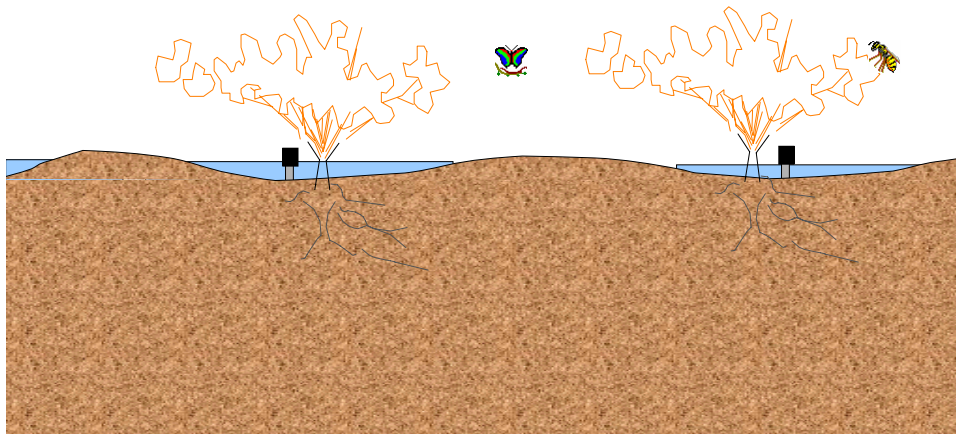

Figure 2. Contoured basins for bubbler system.
The Desert Irrigation Research and Training (DIRT) center in Tucson recommends the following for installation and maintenance of bubbler basins. (1) No more than one plant should be supplied by an individual bubbler (some bubblers at the DIRT center were installed in a location that enabled water to flow from one plant to another; however, the basins around plants were hard to maintain, and it was hard to maintain the correct distribution of water between plants). (2) If the basin diameter is too large, then two bubblers are required for complete coverage. (3) Increasing the size of basins during the first few years takes approximately 20 minutes per plant per year. (4) Basins with the plant planted below grade are stable; however, basins with ridges above the ground surface are unstable and need maintenance. (5) Trees susceptible to damage by ponded water next to the trunk (rot) should be planted in the center of a doughnut shaped basin with a raised center in order to prevent ponded water next to the trunk. (6) Install most plants 2 to 3 inches below grade in contoured basins, and, thus, large ridges or mounds around basins are unnecessary (figure 2).